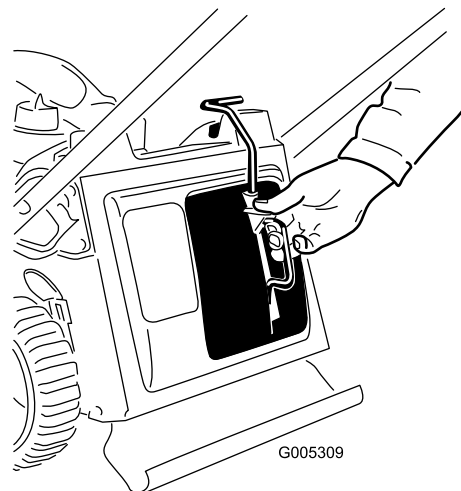

Figure 29
3. Insert the mulch plug (Figure 29).